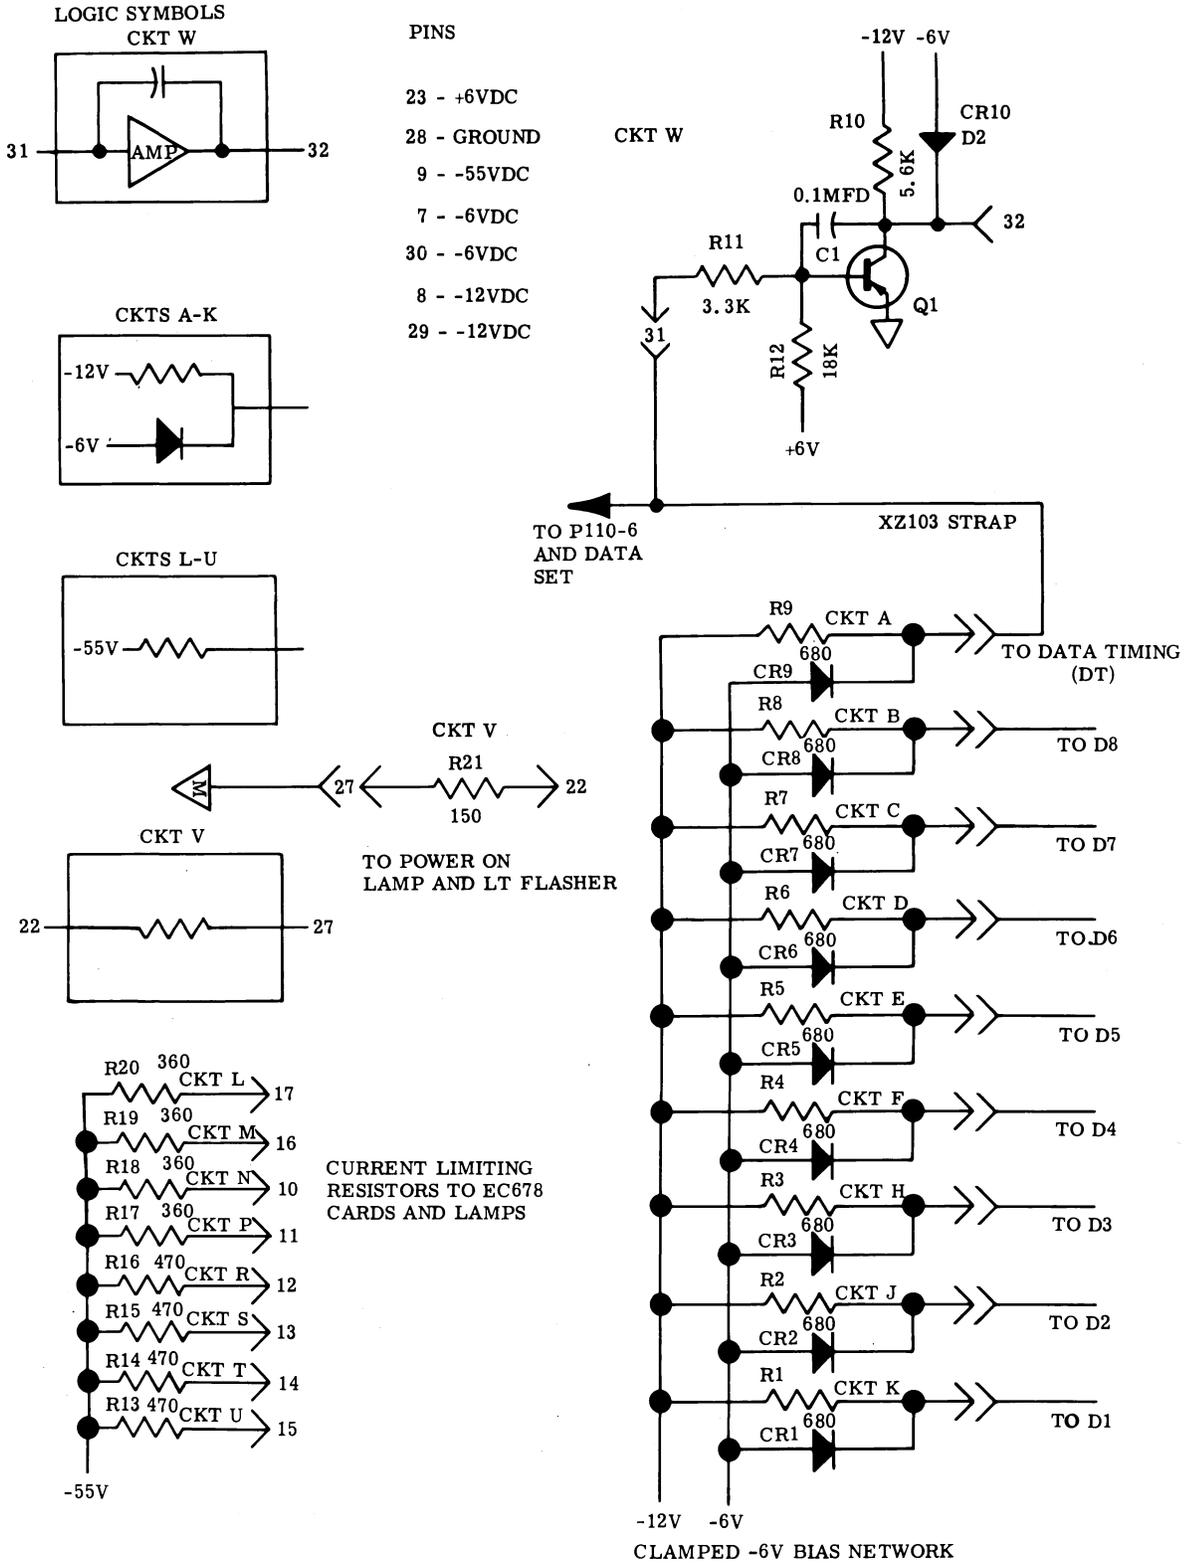

Figure 4 - Timing Pulse Amplifier-Inverter, Bias Network, and Current Limiting Resistors Circuit Card (EC605)
E. Timing Pulse Circuit (Figure 4)